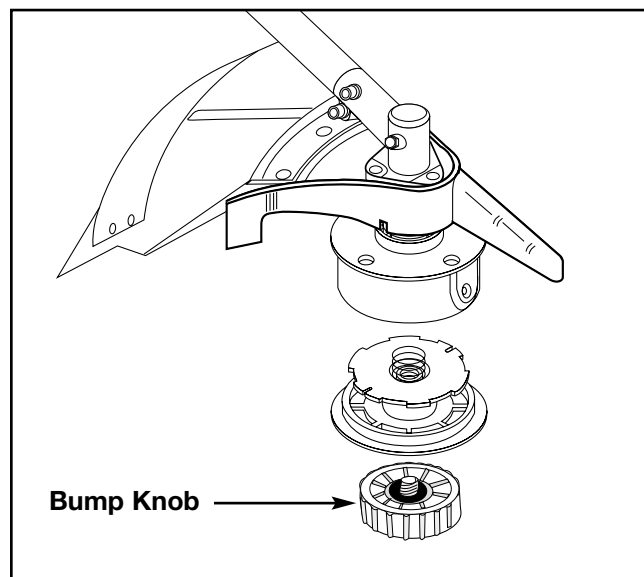

Fig. 26
1. Hold the outer spool with one hand and unscrew the Bump Knob **clockwise** (Fig. 26). Inspect the captured bolt inside the Bump Knob to make sure it moves freely. Replace the Bump Knob if it is damaged.
2. Install the bump knob and tighten **counterclockwise** (see Fig. 26). Add a small amount of grease or oil to the threads on the Bump Knob bolt to make it easier to remove the Bump Knob the next time. Line installation is now complete.